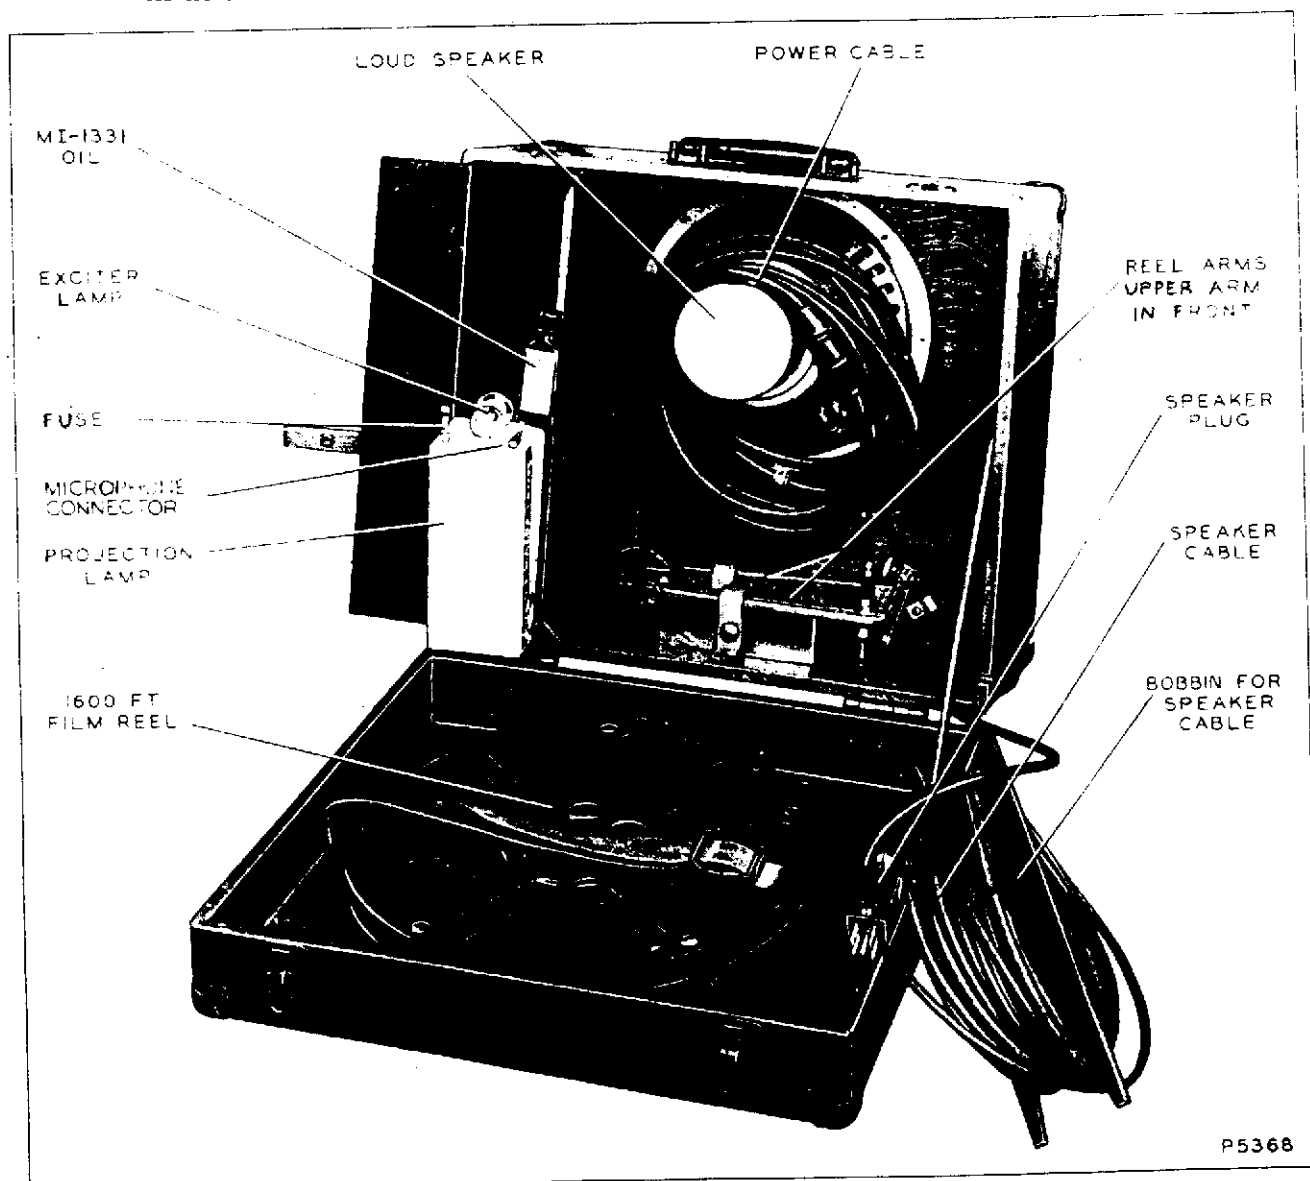

Figure 3—Loudspeaker Case and Contents
4. Arrange the equipment in the projection room as shown in figure 1. Place the projector-amplifier, with its front cover removed, on a steady table in front of a projection screen at a suitable distance. (For detailed information refer to figure 1 and to Utilization.) Remove all loose parts from the speaker case (fig. 3) and place them on the table within reach of the operator. Close the speaker case; unwind the speaker cable, and place the speaker near the screen, as shown in figure 1.